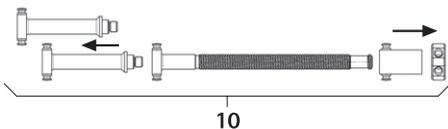

Fig. 6
- ▶ Desmontar o fuso distractor 10, ver Fig. 6.